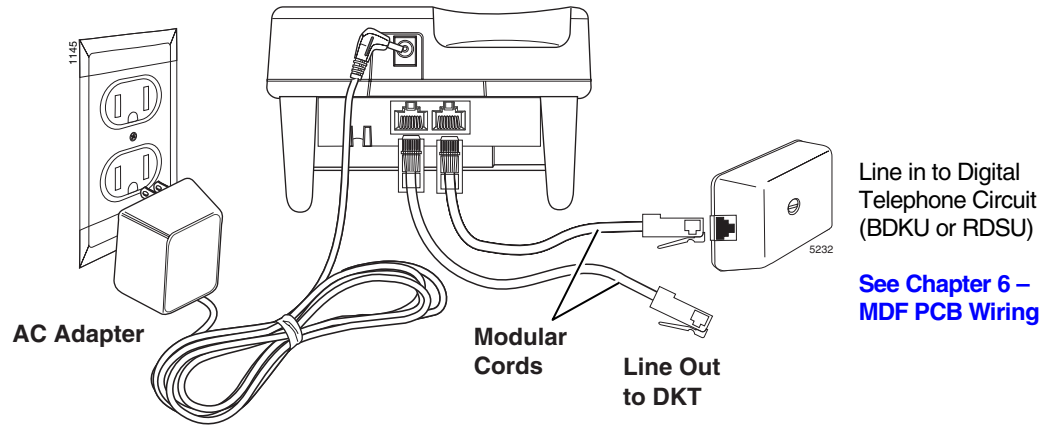

Figure 7-29 Cordless Telephone AC Adapter
1. Plug the AC adapter cord into the AC adapter input jack on the base unit (see Figure 7-29).